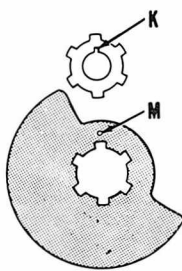

Fig. BS4-23—Mark (M) on rotary valves should be aligned with keyway (K) on the drive collars.
The rotary valves (24—Fig. BS4-18) are interchangeable but the drive collars (25 & 26) are not. Valves are correctly timed when the mark (M—Fig. BS4-23) on the valve is aligned with the keyway (K) on drive collar.